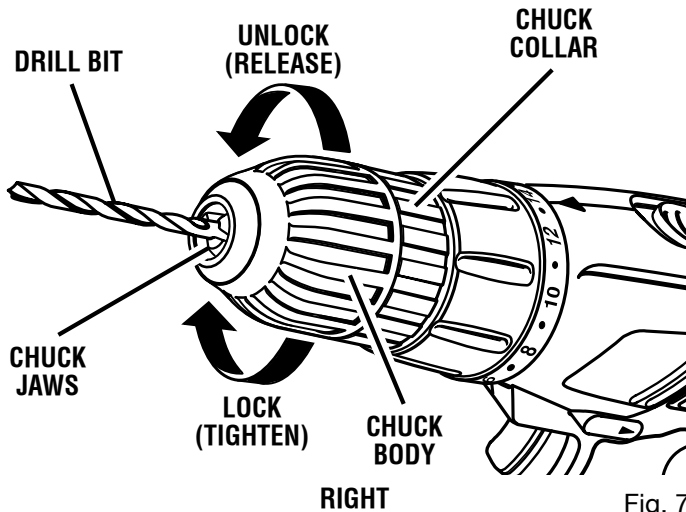

Fig. 7
See Figure 7.
- Insert drill bit straight into chuck the full length of the jaws as shown in figure 7.